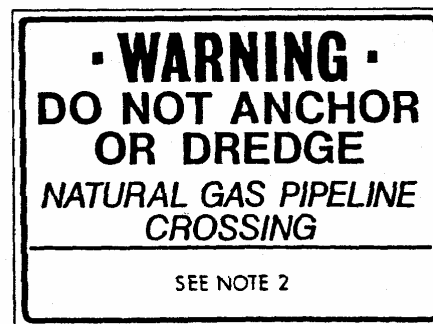

Figure 25-1 Typical Warning Signs
- Roads, foreign pipelines and navigable waterways crossed by the gas pipeline will have Right-of-Way Line Markers (See Figure 25-1) permanently installed indicating crossing locations.
25.2.2.2 Navigable-Waterway Line Warning Sign (See Figure 25-1)